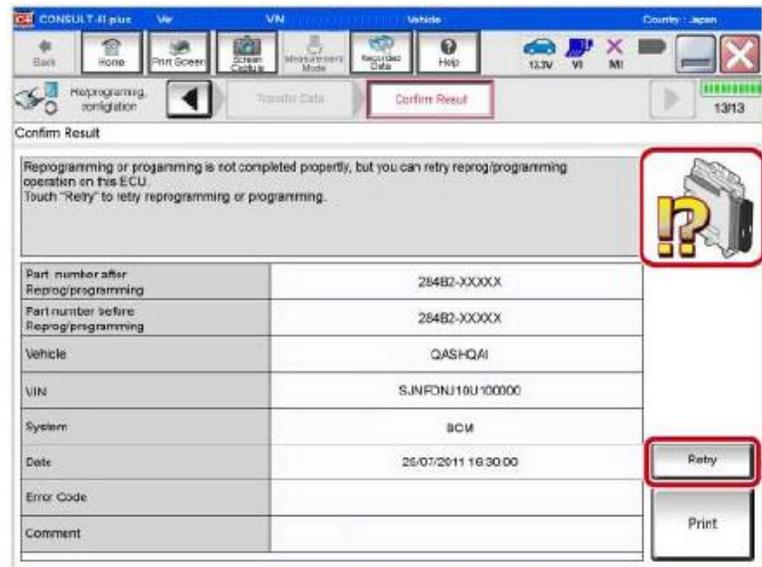

Figure 20
**If reprogramming does not complete and the “!?” icon displays as shown in Figure 20:**